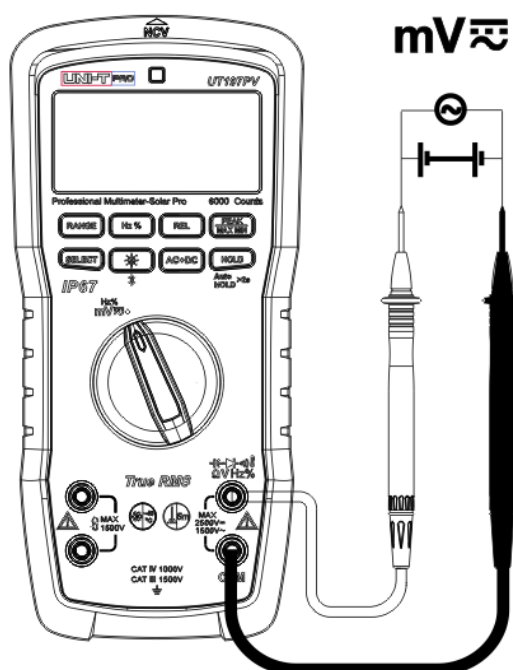

Figura 8
4. Misura mV CA (Figura 8)
5. Misura mV CC (Figura 8)